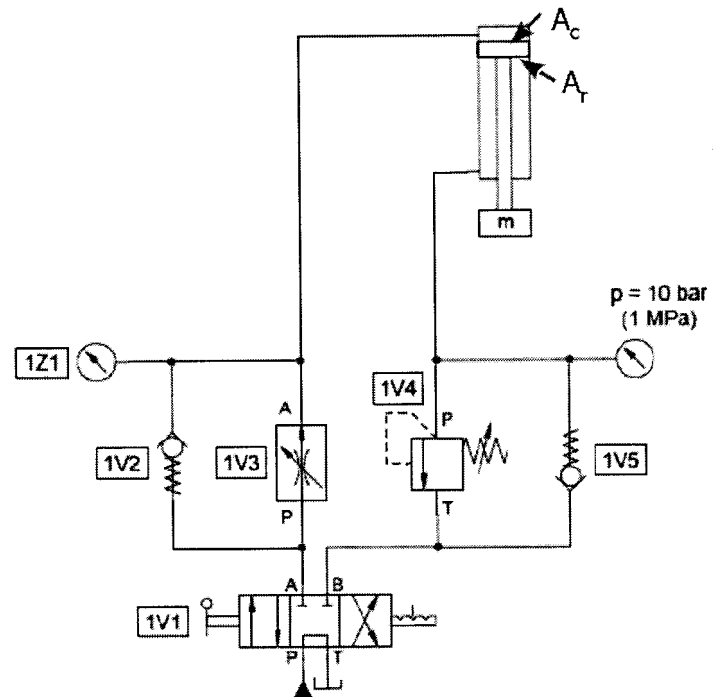

Figure H-2
2. Name 1V3 in Figure H-2
3. Name 1V4 in Figure H-2